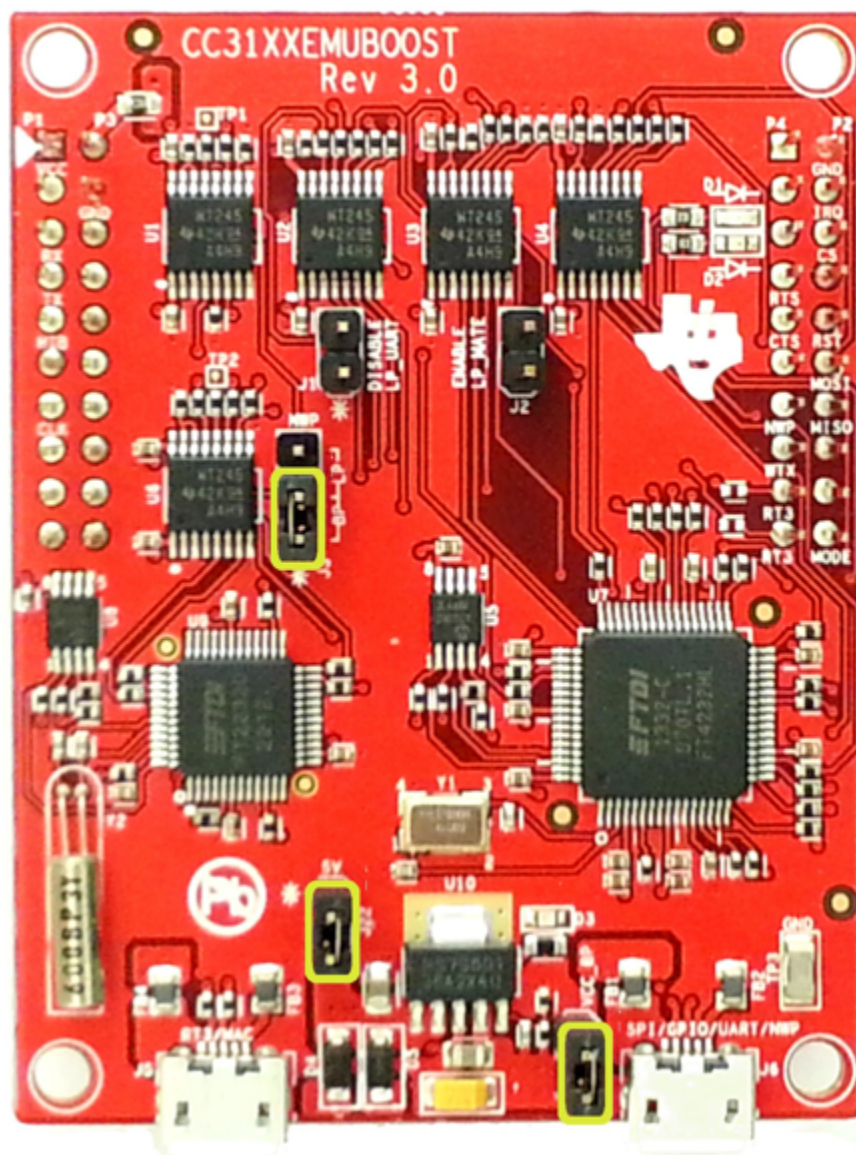

Figure 2. CC31XXEMUBOOST
- The jumpers on the CC31XXEMUBOOST should be connected as shown in Figure 2.